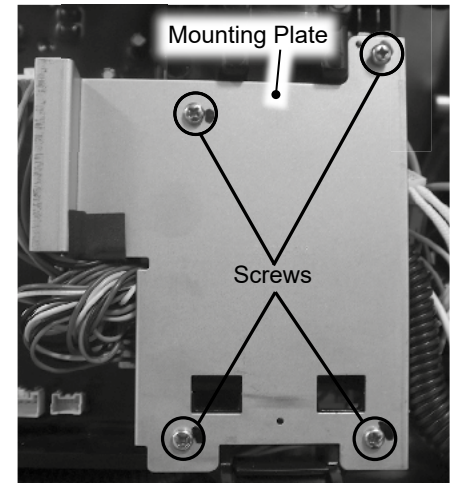

Figure 3 - Mounting plate screw removal.
7 Locate the four (4) screws securing the metal mounting plate. See Figure 3. Use a Phillips screwdriver to remove the screws. Place screws and mounting plate aside in a safe place for reinstallation.